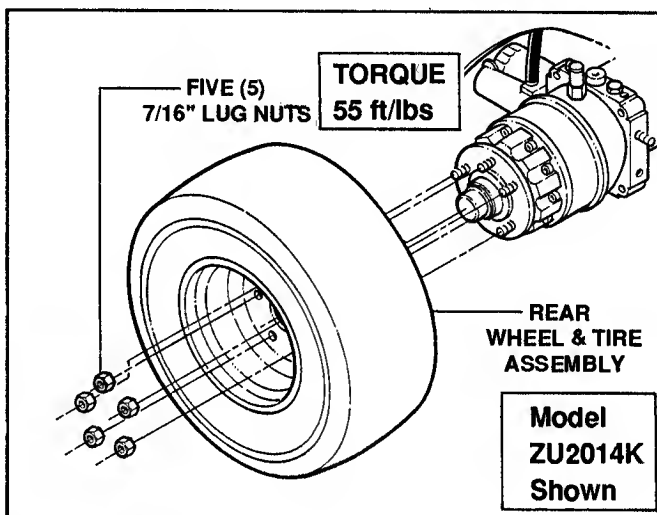

FIGURE 5.3
- B. To remove wheel and tire assembly only, loosen, then remove the five 7/16" lug nuts. See Figure 5.3.